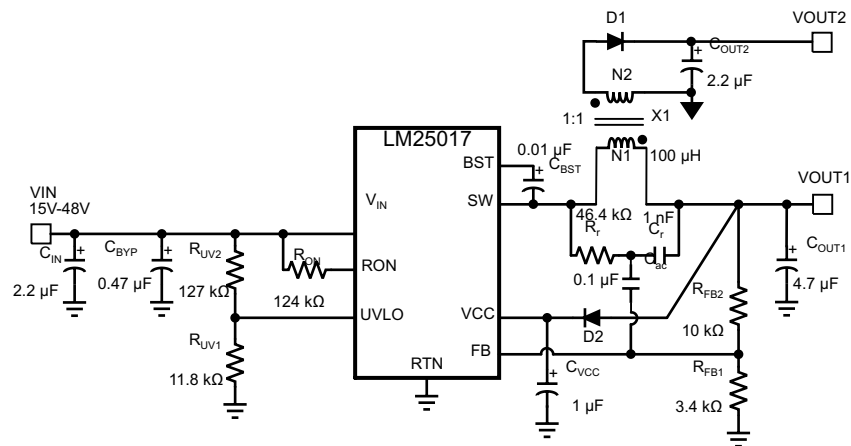

图 8-5. Typical Isolated Application Schematic
An isolated supply using LM25017 is shown in Figure 8-5. Inductor (L) in a typical buck circuit is replaced with a coupled inductor (X1). A diode (D1) is used to rectify the voltage on a secondary output. The nominal voltage at the secondary output (V_{OUT2}) is given by Equation 17.